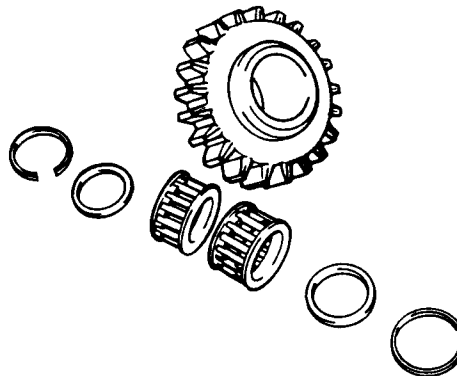

Fig H1.134
(1) Refer to Fig H1.134. Check the condition of the bearing and wear of all parts.
(2) Replace worn or damaged components.